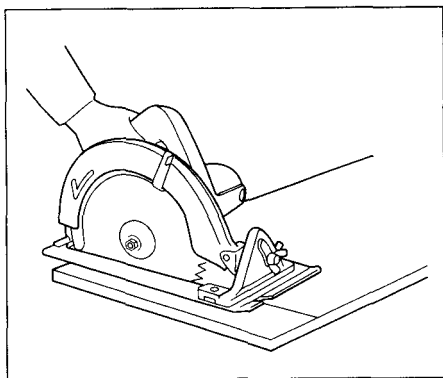
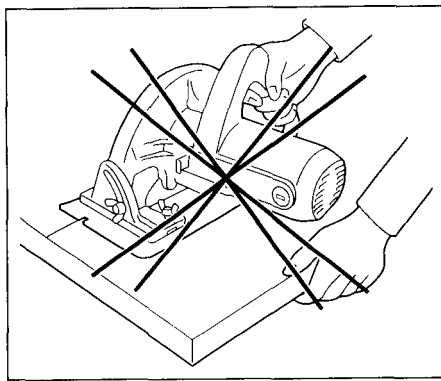

Fig. 4
Fig. 5
14. Place the wider portion of the saw base on that part of the workpiece which is solidly supported, not on the section that will fall off when the cut is made. As examples, Fig. 4 illustrates the RIGHT way to cut off the end of a board, and Fig. 5 the WRONG way. If the workpiece is short or small, clamp it down. **DON'T TRY TO HOLD SHORT PLACES BY HAND!**